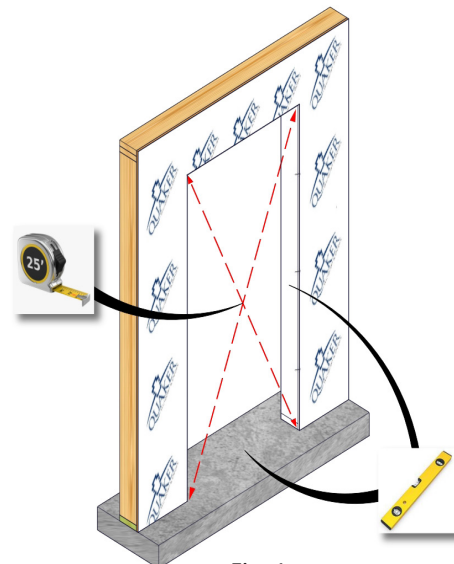

Fig. 1
3. Verify the rough opening is flat, plumb, level, and square. (Fig. 1)